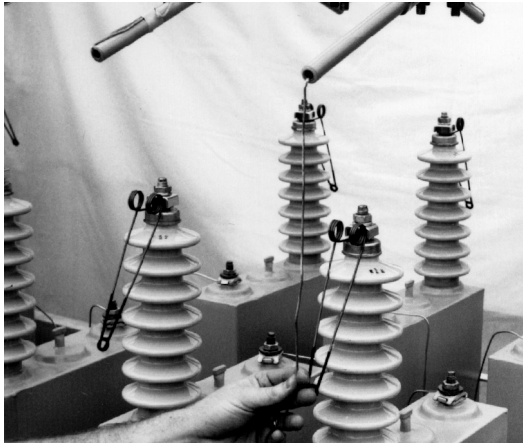

Figure 13.
- B. Straighten the fuse link leader such that there are no entanglements (Figure 13).